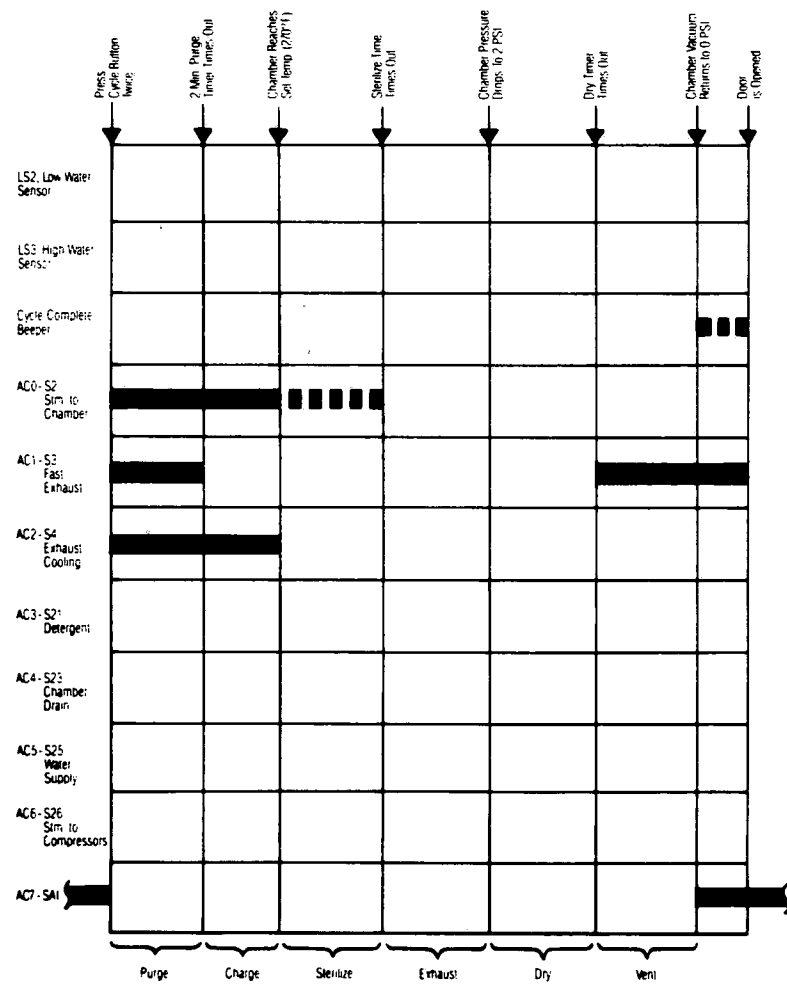

FIGURE 6-1 – Cycle Graph: Flash Cycle
2. Use cycle graphs, Figures 6-1 through 6-3, to follow the cycles through the various phases. The cycle graphs may also be used to check for correct operation of the solenoid valves which control the various phases.
The cycle graphs (Figures 6-1 thru 6-3) are representations of the operations of the cycles available with the washer/sterilizer. They are intended to be used for two main purposes: 1) as an aid in understanding how the various cycles work, and 2) as an aid in troubleshooting. The upper graph on each page is a representation of chamber pressure variation during the separate phases of the cycle.